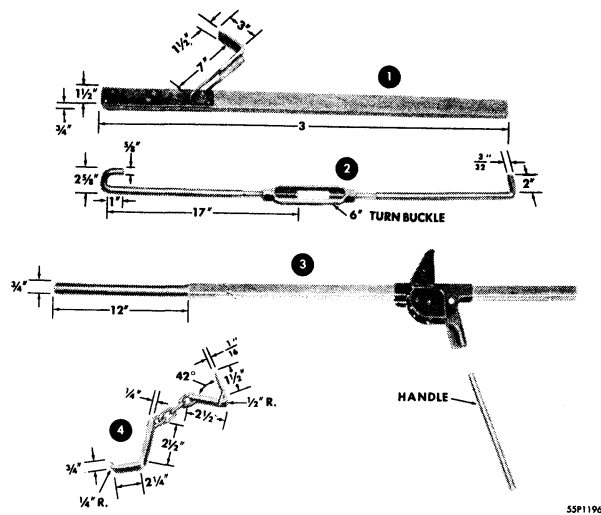

Fig. 11—Body Adjusting Tools
4. Hood Projects Beyond Front of Fender—This condition can be corrected by shifting fender forward with standard bumper jack with 10½ inch steel plate welded to base (Figs. 11 and 12).